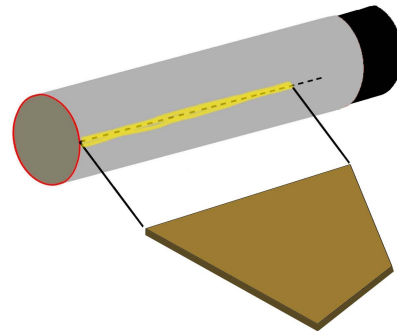

Figure 8
- **Step 15** Apply a bead of full-strength glue to one of the fin alignment lines, between the bottom of the tube and the 5" mark, and a similar bead to the root edge of a fin. Attach the fin to the body as shown in Fig. 8. With the artist's brush slightly wet, smooth down the glue that has squeezed out from the joint to form a small fillet. Do not over-wet this area! Slide the alignment